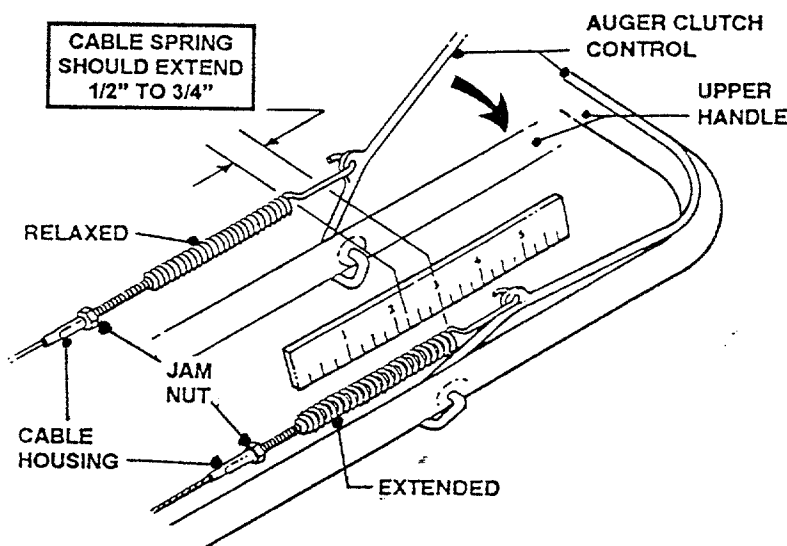

FIGURE 4.1
1. Measure auger clutch control cable extension from a relaxed position to full extended position. See Figure 4.1.